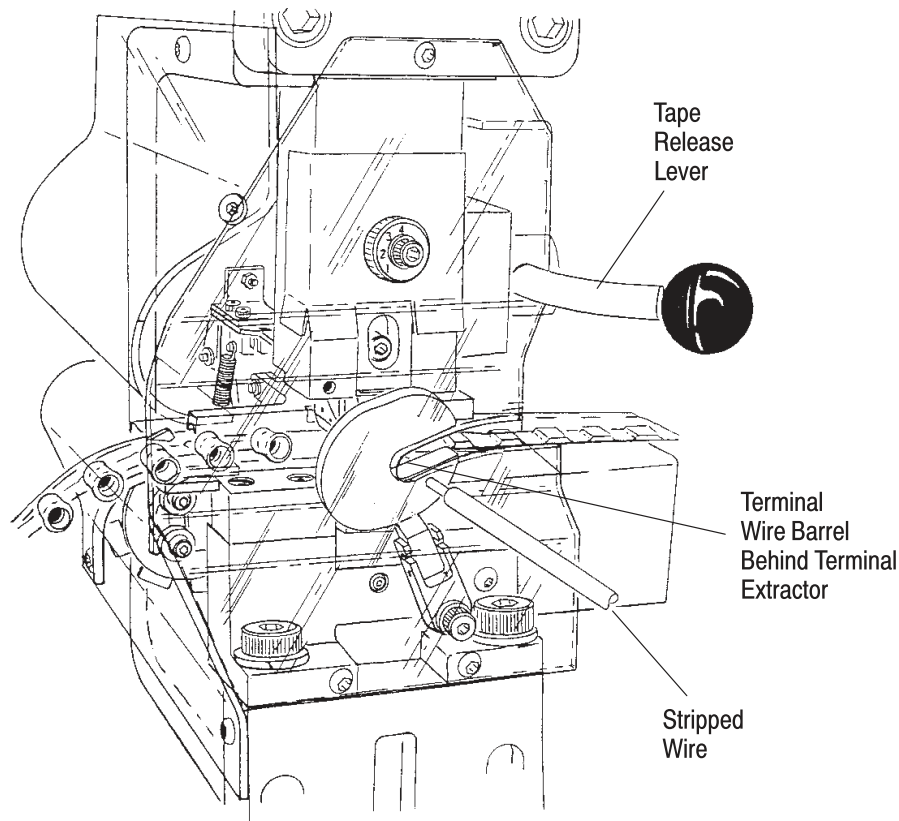

Figure 12
4. Insert the pre-stripped wire into the product wire barrel until the wire end contacts the internal wire stop. See Figure 12. Depress and release the foot switch to cycle the machine.